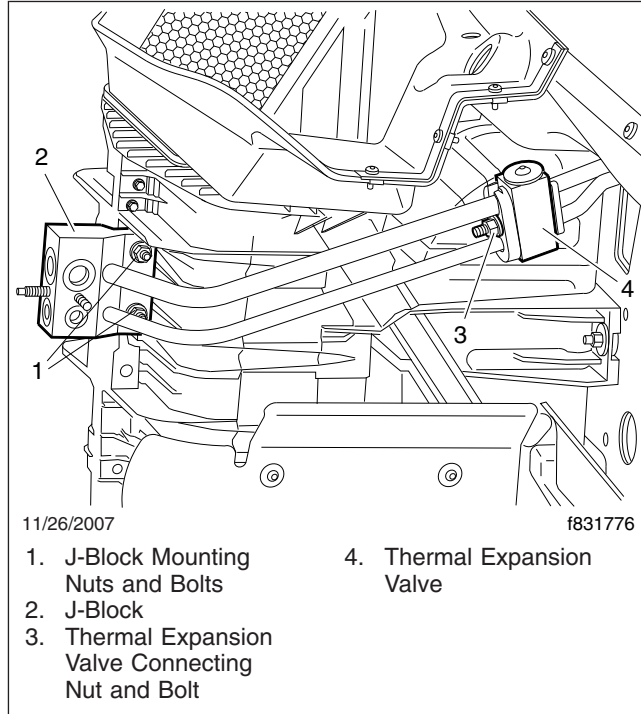

Fig. 9, Junction Block and Thermal Expansion Valve
22. Remove the nuts and bolts that hold the J-block to the HVAC intake duct. See Fig. 9.